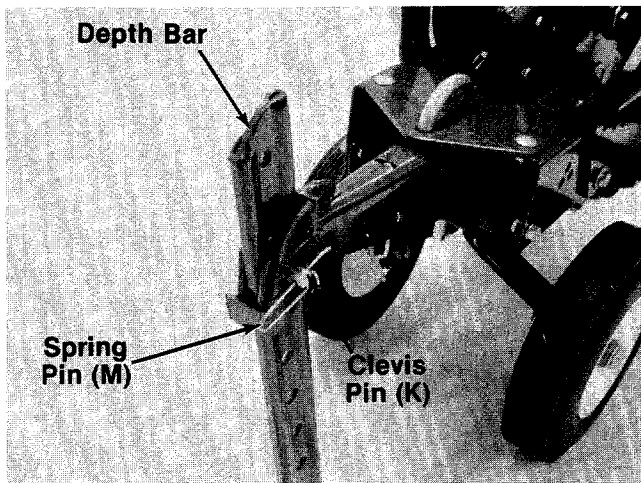

FIGURE 4.
Slide the depth bar into the tailpiece to desired depth. Secure with clevis pin (K) and spring pin (M). See figure 4.